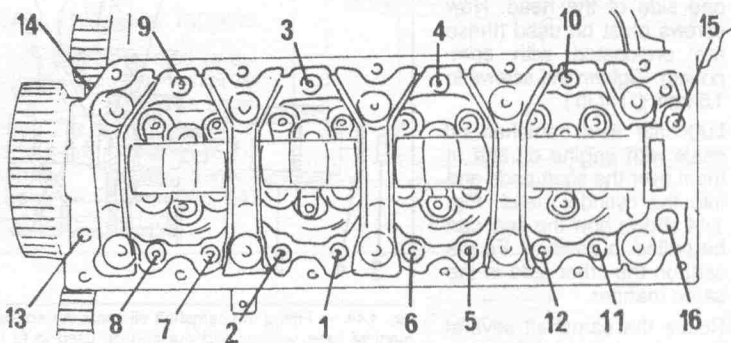

Fig. 1.43. — Tightening sequence for the camshaft housing bolts.
- Insert the 16 housing bolts and tighten them finger-tight. All bolts must be tightened in several steps to 2.5 kgm (18 ft.lb.), but as the bolts are not evenly spaced, the sequence in Fig. 1.43 must be followed.